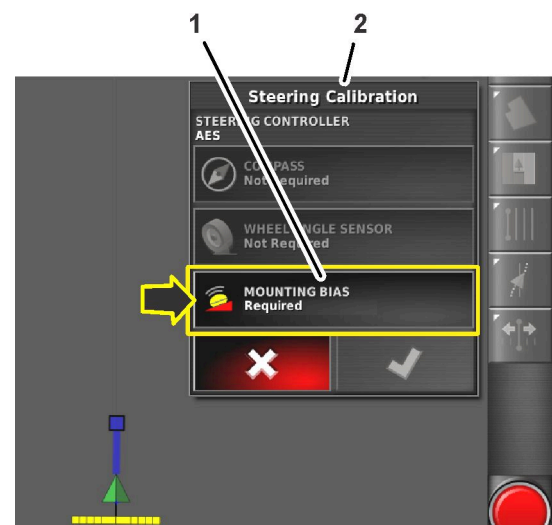

Figure 167
3. Press the MOUNTING BIAS icon (Figure 167).